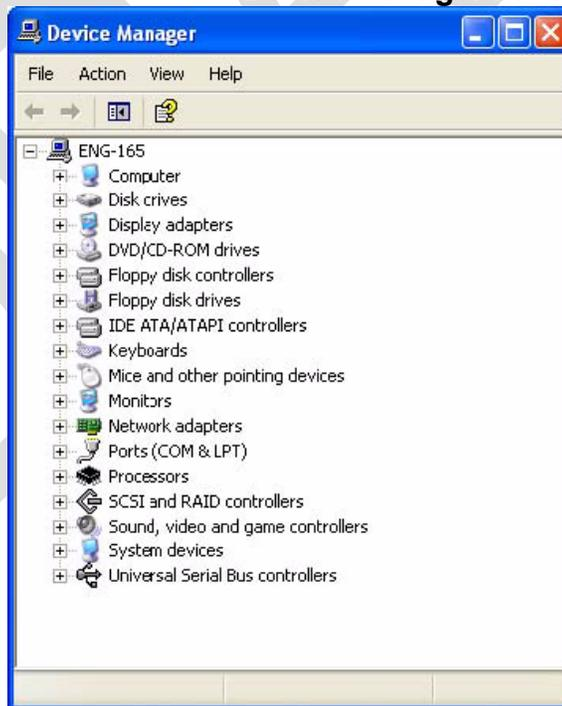

Figure 8-3 Device Manger
3. Click the **Hardware** tab, and then click the **Device Manager** button. (Figure 8-3).